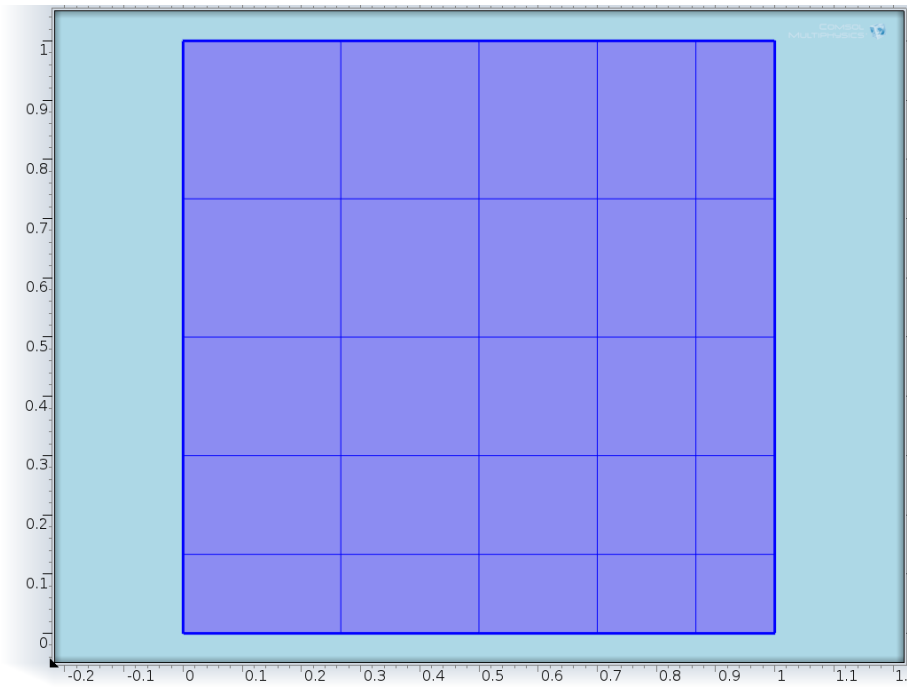

Figure 25: Convergent mesh.
- 7 Mesh the same square with 25 elements. The arrangement of the elements is 5-by-5. The ratio of the side lengths of the first and the last element along the axis is 2 according to the Fig. 25. This applies to the both axes. Plot the mesh as the element quality plot.